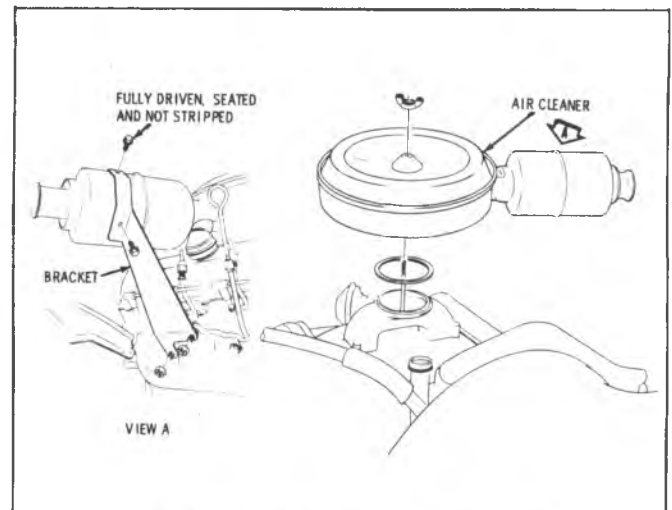

Fig. 6A6-17--Air Cleaner Attachment
### INJECTION PUMP FUEL LINES (Fig. 6A6-10)
1. Remove air cleaner. (Fig. 6A6-17).